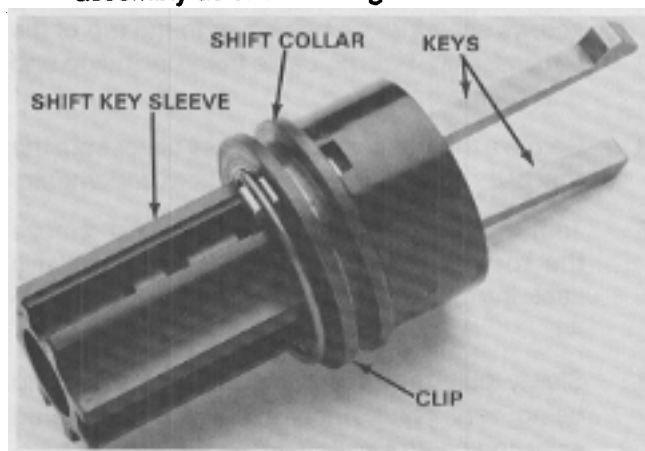

Figure 47
6. Coat the shift key sleeve with grease and prepare the shift keys, shift collar, and spring clip for assembly as shown in Figure 47.